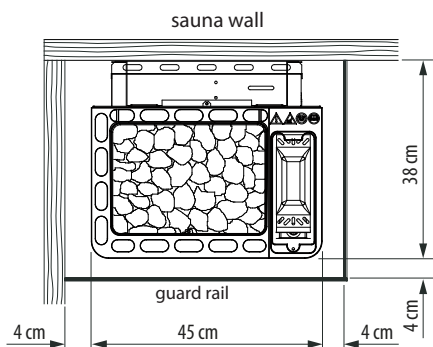

Fig. 2
- When you install the sauna heater you must ensure that the vertical distance between the top edge of the sauna heater and the sauna ceiling is at least **90 cm** and that the horizontal (at the side) distance between the heater and cabin wall is at least **4 cm** (Fig. 2).